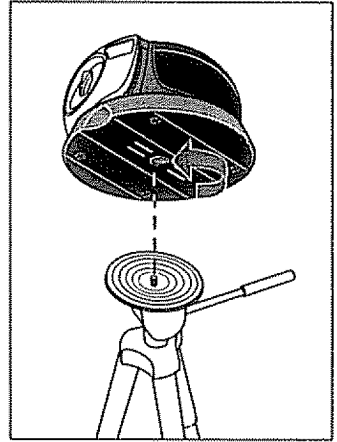

Fig. 11
Because the Palm Grip Laser Level is a "forward" projection device, it can be placed on any reasonably level flat surface to draw a plumb vertical line. When used in conjunction with any standard tripod (1/4-20 UNC threaded fitting) versatility is further enhanced (See Fig. 11).
1. Attach the All-Position Leveling Base to the tripod using the standard 1/4-20 UNC threaded fitting included with the tripod. (See Fig. 11).